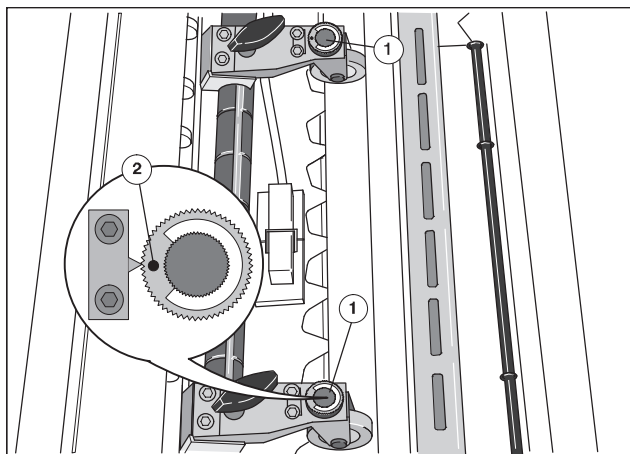

Fig. 13 Setting the contact pressure
Almost all printing materials can be processed at a medium setting of the knurled head screws (Fig. 13/1).
- Medium setting: the pin (Fig. 13/2) in the knurled head screw is opposite to the recess in the plate spring. Only change the contact pressure **in the event of paper travel problems** (e.g. forming of creases or markings on autocopying paper).
6. Use the knurled head screw (Fig. 13/1) to set the same contact pressure to the transport roller on D.S. and O.S..